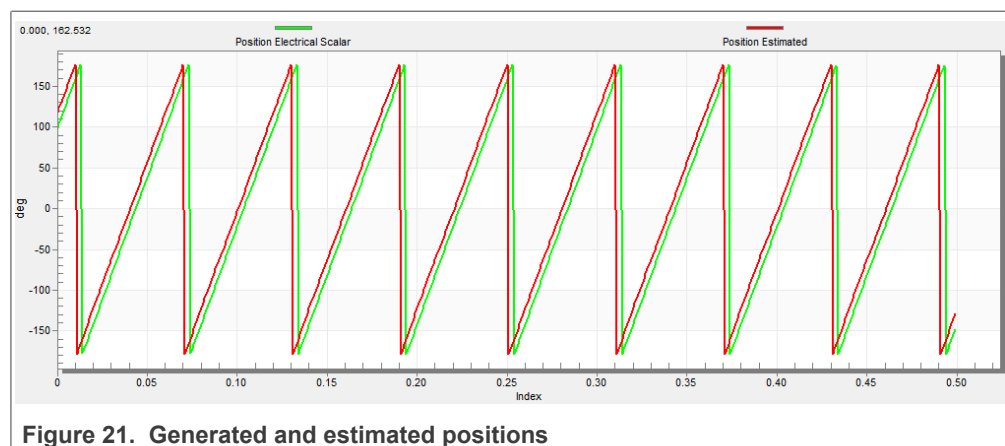

Figure 21. Generated and estimated positions
6. Select the “Position” recorder to check the observer functionality. The difference between the “Position Electrical Scalar” and the “Position Estimated” should be minimal (see Figure 21) for the Back-EMF position and speed observer to work properly. The position difference depends on the motor load. The higher the load, the bigger the difference between the positions due to the load angle.